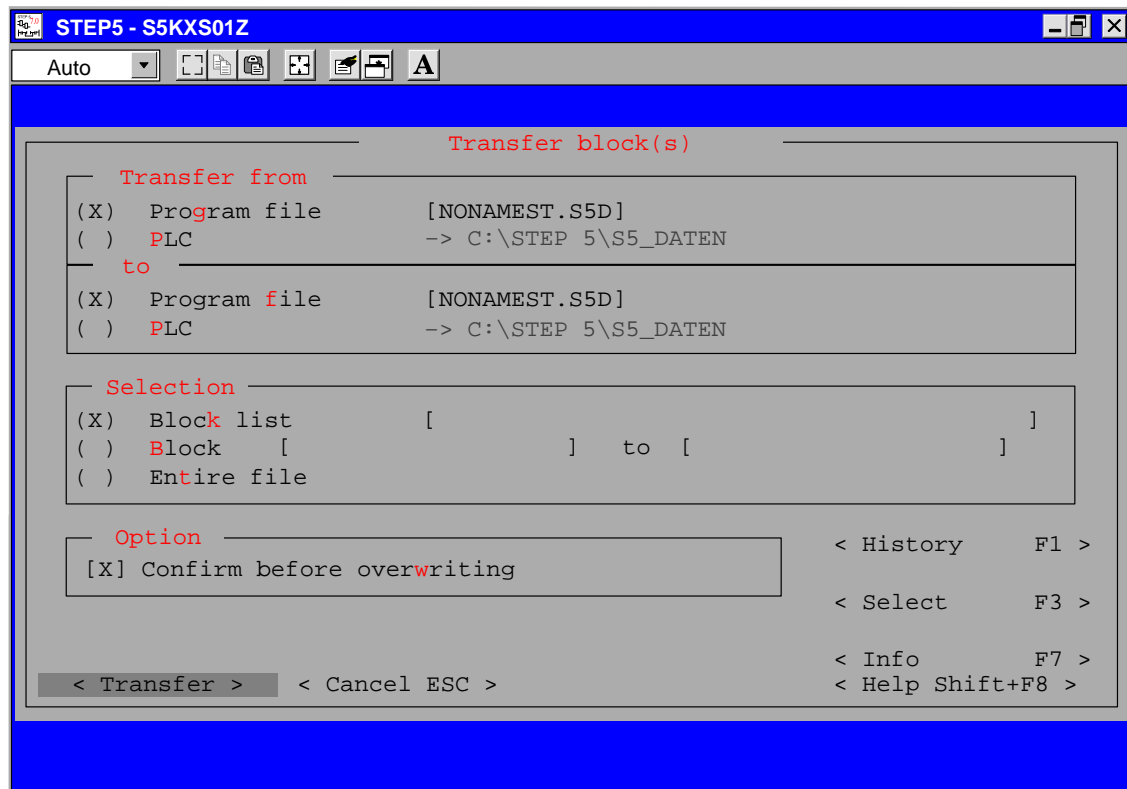

Figure 3-5 Example of a Job Box
**Function** The job box is a dialog box for calling an editor or a function. The information used in these forms can have effects on the elements with the same name in the project settings. The most important components of dialog boxes are explained based on an example in Figure 3-5.